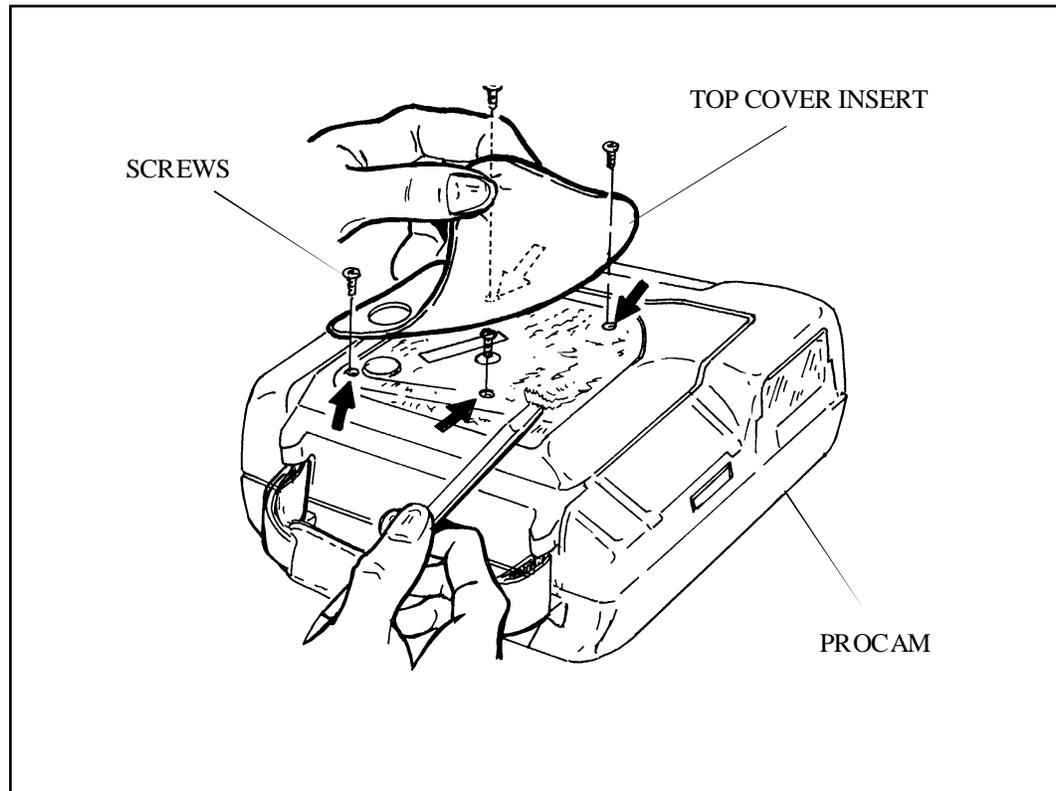

Figure 3-1. Removing Top Cover
- a. Peel off Top Cover Insert and remove adhesive with greenstick (Figure 3-1).